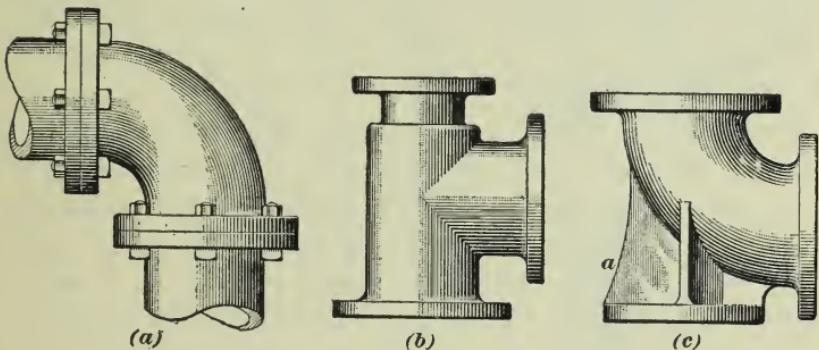

FIG. 50
**66.** Fig. 50 (*a*) shows a cast-iron **flanged elbow** connected to two pipes; a **reducing flanged tee** is shown in
Fig. 50 (*b*); Fig. 50 (*c*) shows a so-called **base elbow**, which has a bracket *a* with a wide base cast on it. This kind of elbow is used at the bottom of a long run of vertical pipe, the base being placed on a masonry pier, or similar suitable foundation, in order to support the weight of the pipe above it. Nearly all kinds of fittings can be bought with flanges instead of tapped ends.